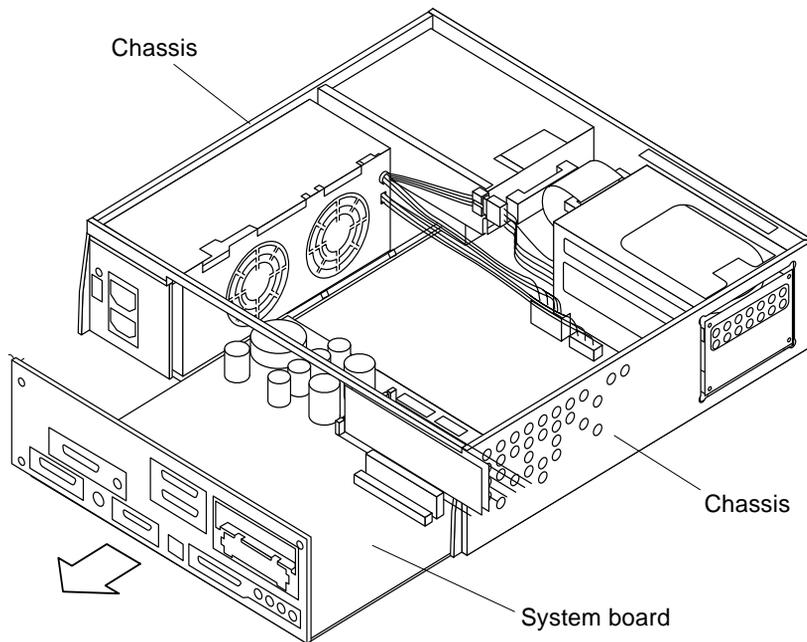

FIGURE 10-3 Sliding the System Board Out of the Chassis
- 8. Grasp the system board and slide it out of the chassis (FIGURE 10-3).**